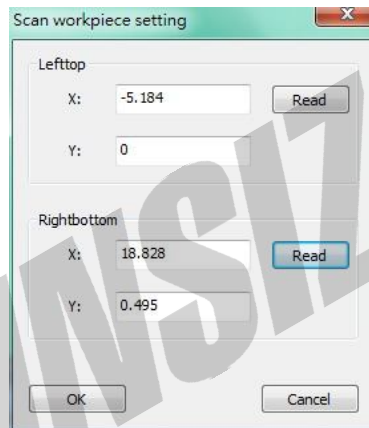

Fig. 10-18
Move the cross line to the upper left of the target workpiece and click “Read” button in Fig.10-18
- (2) Move the cross line to the lower right of the workpiece and click “Read” button in Fig.10-18 to get scanning area of the workpiece.